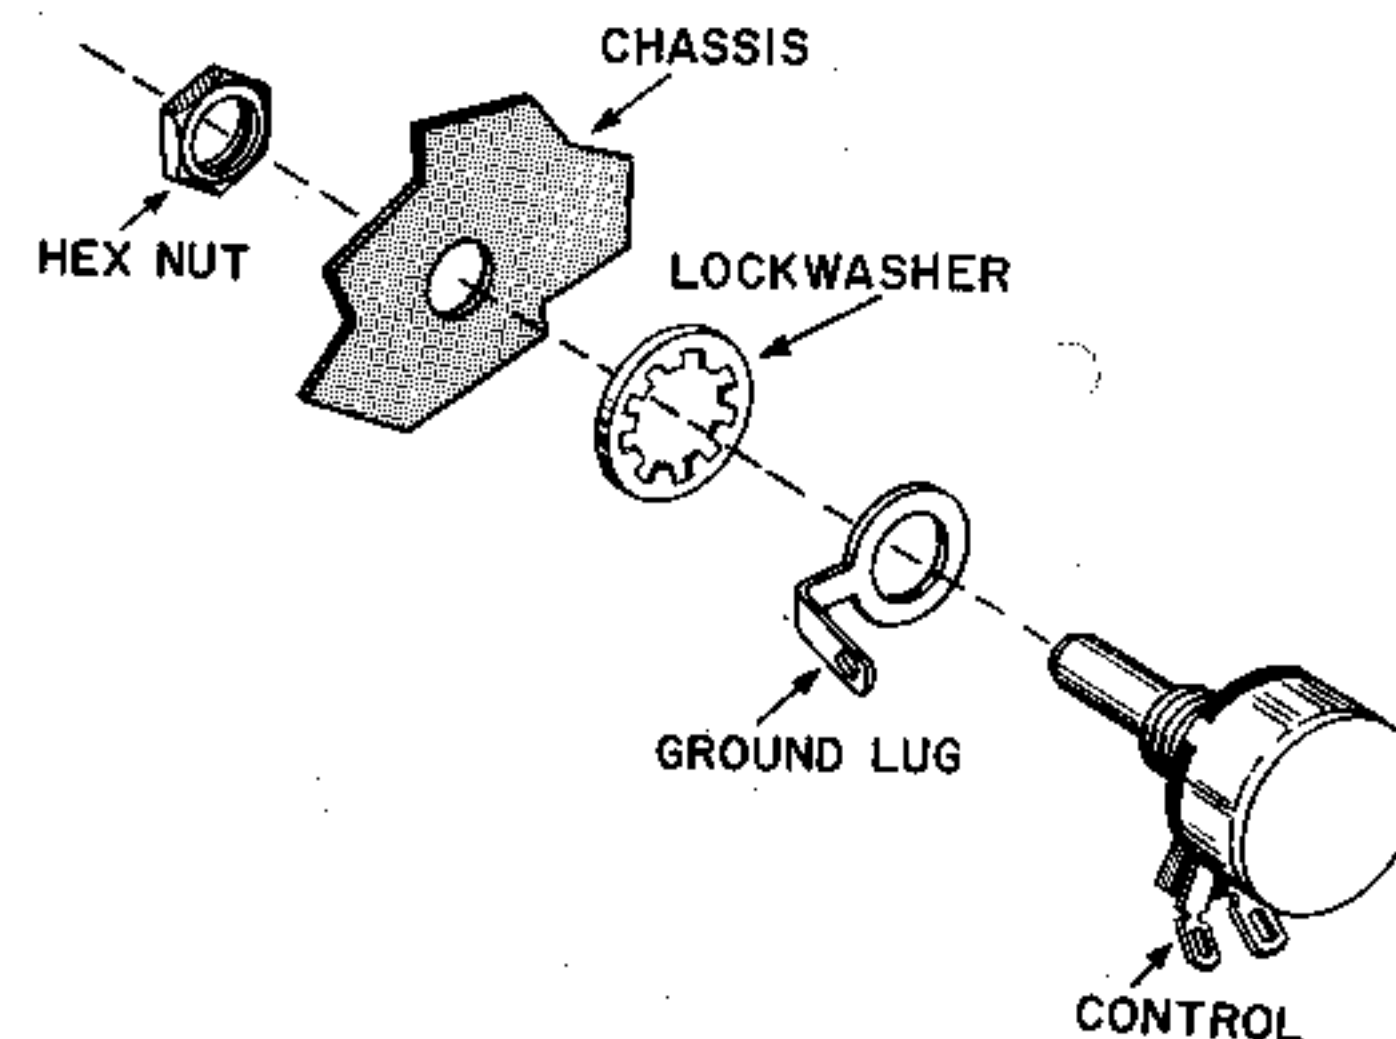

FIGURE 5. HOW TO MOUNT A CONTROL USING A GROUND LUG
- ✓ From inside the chassis, mount R-24, the 10KΩ QX SELECTIVITY control, with one 3/8" ground lug, lockwasher and nut as shown in Figure 5. Position the terminals as shown in Figure 3.